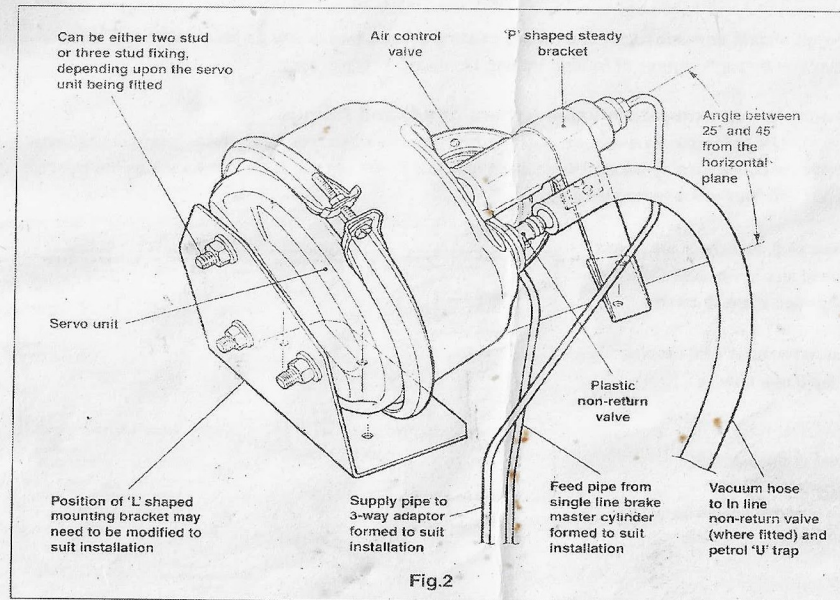
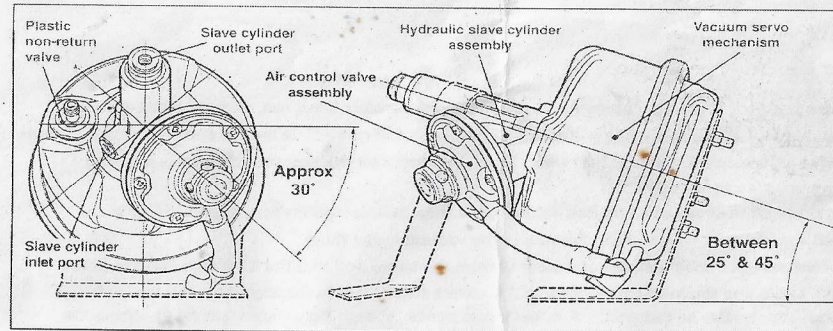

Fig.2
Fig.3
- 5 With the aid of the mounting brackets and fixings provided in the kit, install the servo unit with the hydraulic slave cylinder outlet port **inclined upwards between 25 and 45 degrees from the horizontal plane**. (See fig 2) The air control valve should be situated **at least 30 degrees below the centre** line to assist when bleeding the hydraulic system. (See fig 3).